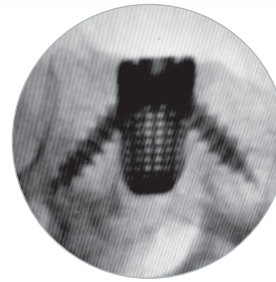

Figure 20a
- Verify screw placement via fluoroscopy (Figure 20a).